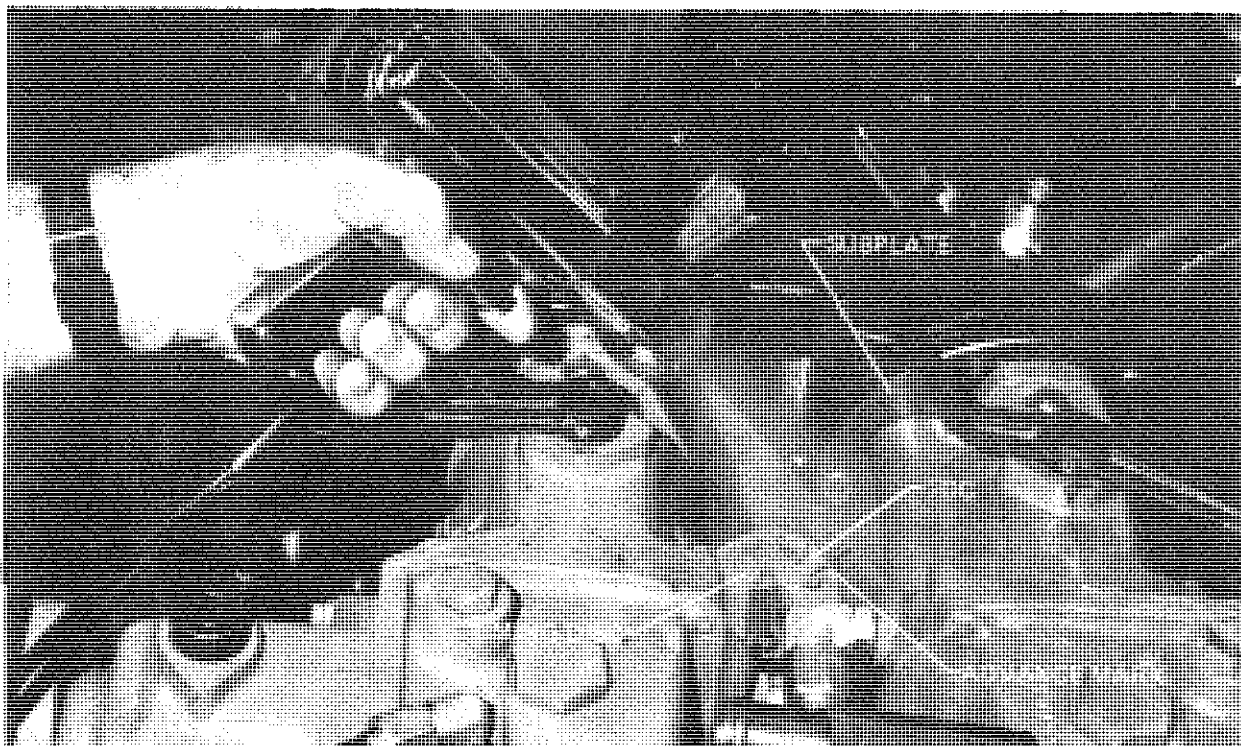

Figure III-4 Timing Tool
- (c) Install the timing disc on the PTO stub shaft as illustrated (Figure III-4).
- (a) With the ignition timing set per (1) set running advance as follows:
- (b) Make sure timing disc is installed as illustrated (Figure III-4).